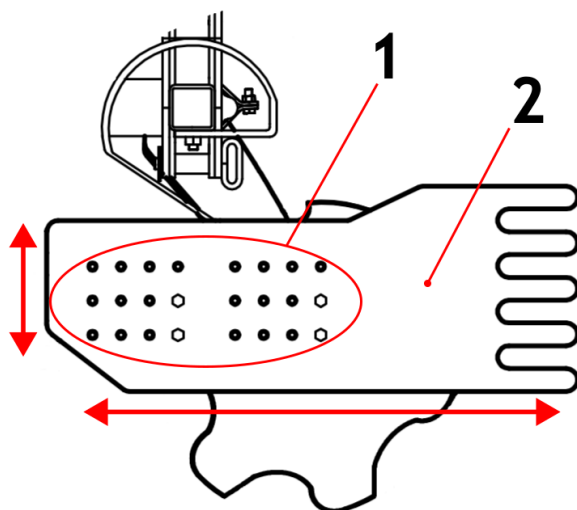

Figure 29 Adjusting the position of the side screen (1 - holes for adjusting the position of the side screen relative to the holder, 2 - side screen)
The **side screen** should be set and locked with a screw at such a height that it is above the soil surface and not exposed to the impact of stones and the hanging of crop residues. If necessary, it should also be moved forwards or backwards (remounting at the holes (fig. 29, item 1) so that it retains the soil thrown up by the outermost front disc and compacts the furrow behind the outermost rear disc.